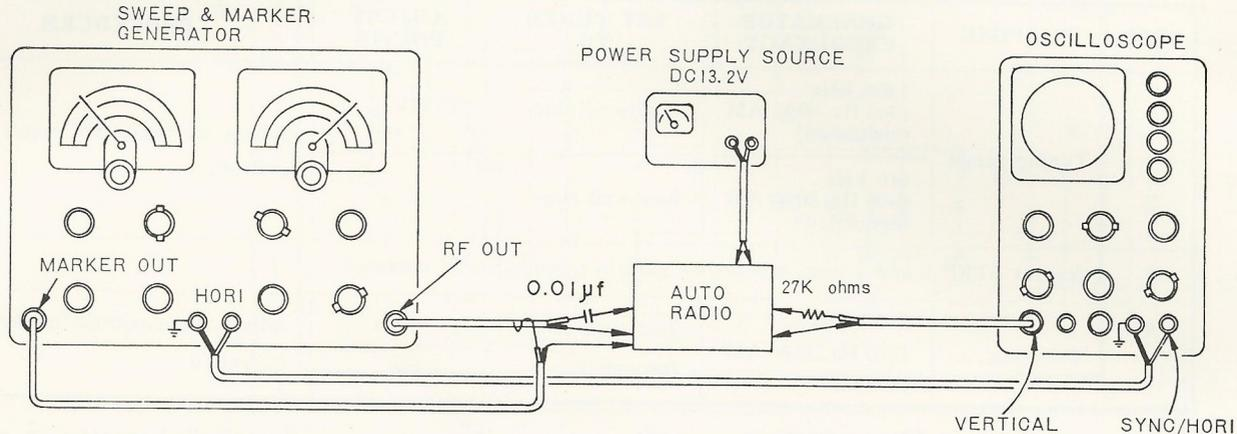

Fig. 5
With the motor rotating use an appropriate gauge to measure the take up torque which should normally be 50 g.cm. If necessary, the torque may be adjusted to this figure by moving the spring up or down the adjustment steps in the take up head. (See Fig. 5).
(1) Preparations for alignment
- a. Connections (Refer to Fig. 5)